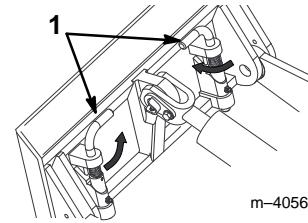

Figure 14
8. Engage the quick attach pins (Fig. 14).